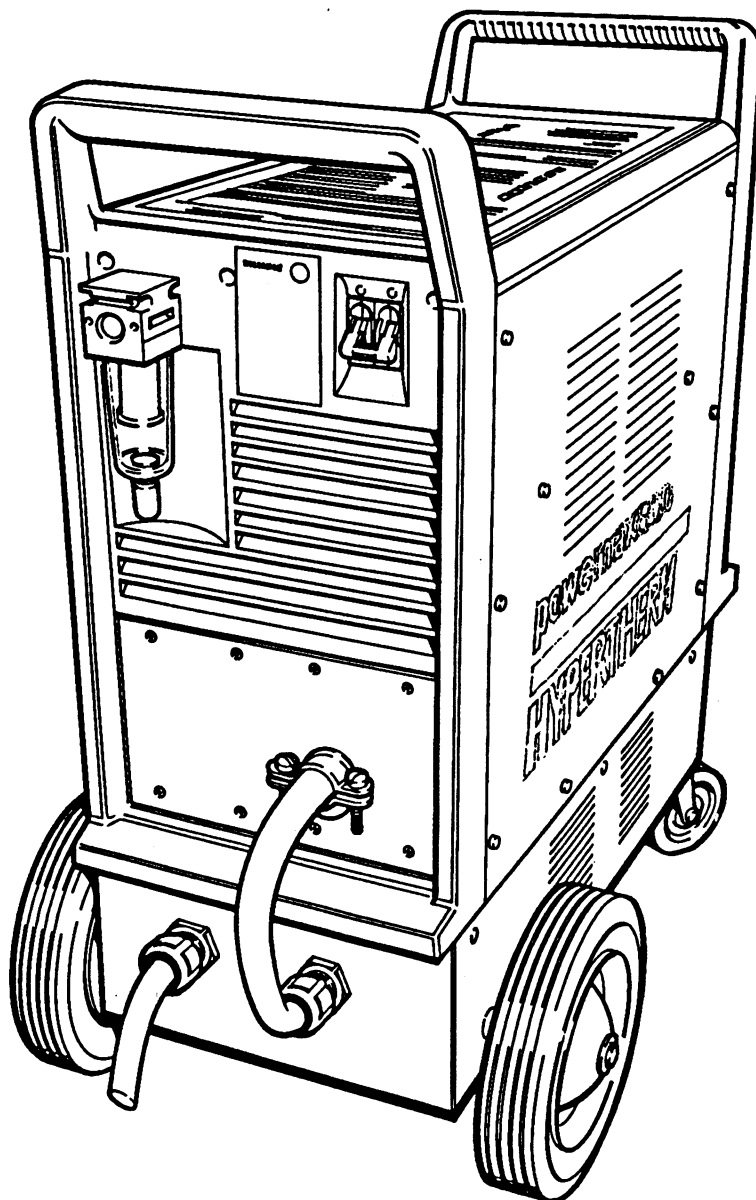

Figure 2-1 Powermax800 600V Power Supply Assembled
The instructions in this manual will enable a qualified electronics technician to convert the 208/240/480 volt Powermax800 power supply into a 600 volt power supply. The kit (128032) contains a transformer and case, wheels, castors, and 2 line cords - one to hook up to a line disconnect box or 3-phase plug, and a shorter cord to connect from the transformer case to the link box at the rear of the Powermax800 - See Figure 2-1. See also Section 3 for a list of parts for the 600 volt conversion kit.
4. Tighten strain relief screws around the power cord. Be certain that the strain relief grips the outer insulation of the power cord and not the individual wires. See completed assembly in Figure 2-1.